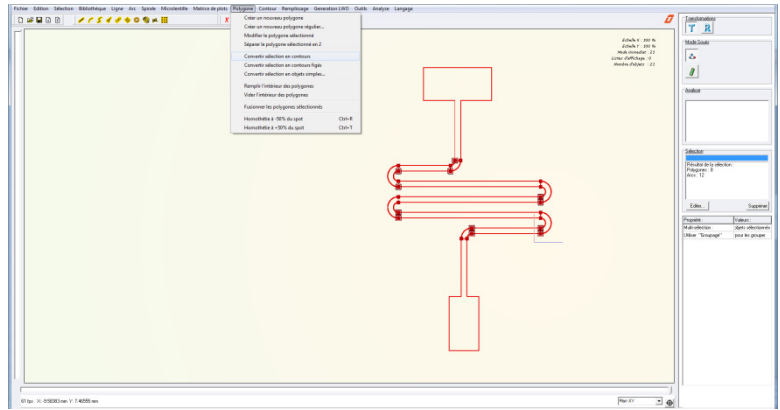

Fig13 : Conversion of the polygons into simple elements.
- Click on “**Polygon > Convert selection in contours**” (see Fig13). This function will convert the polygons into contours.